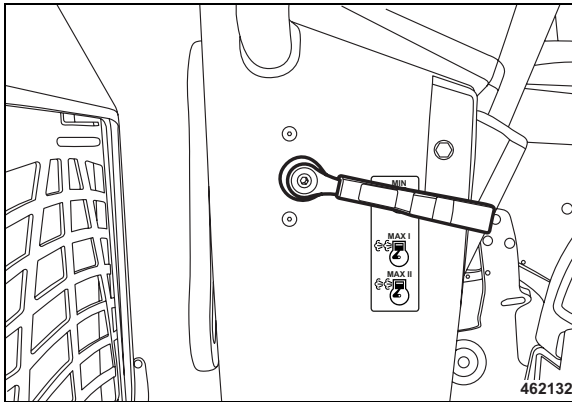

Fig. 69
- Set the throttle lever (Fig. 69) to position "MIN" (idle speed).